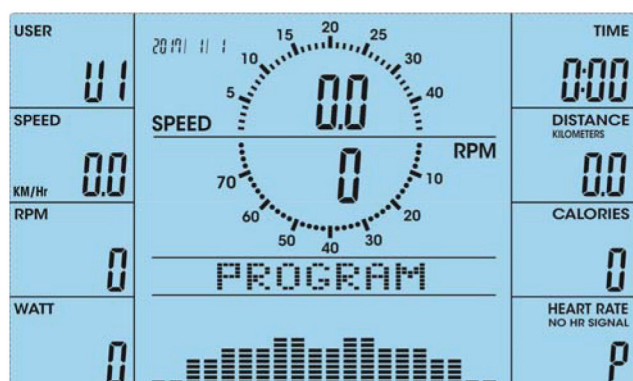
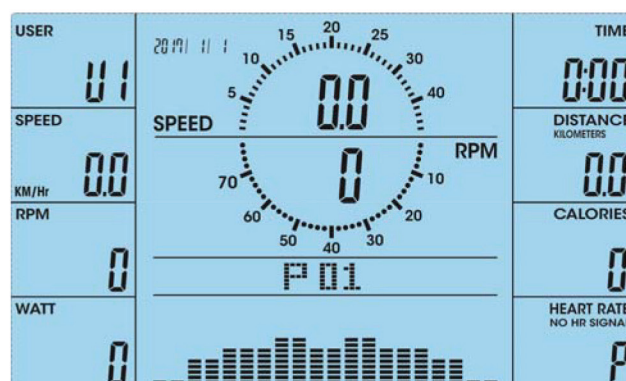

Fig. 18
Fig. 19
1. Press ENTER in the MANUAL programme (fig. 19).
1. After entering the PROGRAM mode (fig. 18) you can choose one of the 12 hill programs with the UP/DOWN buttons (fig. 19 to 30).